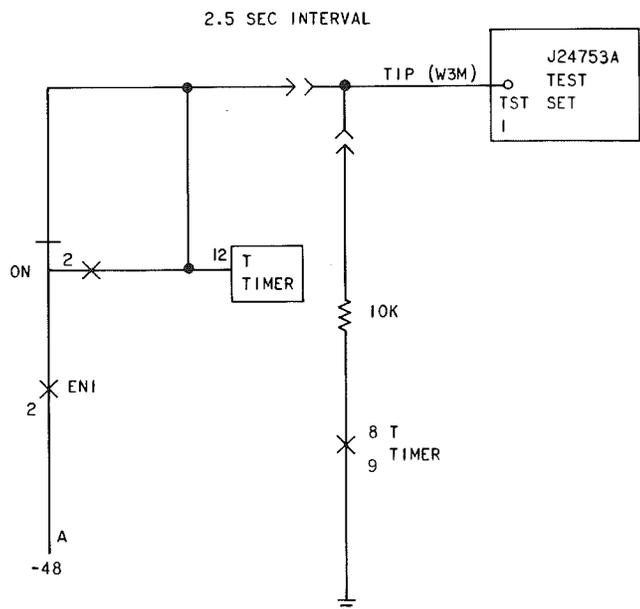

Fig. 3—Typical Connections Using J24753A Test Set for Timing Test for Test B
2.04 The J24753A test set for timing tests provides a means for checking relay and circuit operation time intervals. Adequate signals to start and stop the intervals to be measured are provided in the circuit under test. Section 100-130-101 contains a description and application for the test set. See Fig. 3 for typical connections.
3.05 On J24753A test set, insert W3M cord in TST 1 jack. Using top of cord, connect to 12 of T timer on J1G024A unit. Insert a 10K resistor between contacts 8 & 9 of T timer and tip of W3M cord. (See Fig. 3).